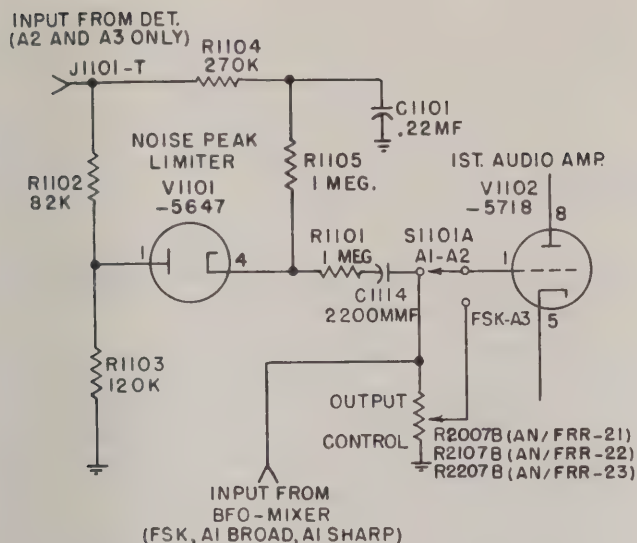

Figure 2-4. Noise Peak Limiter, Simplified Schematic
(1) AUDIO INPUT CIRCUITS.—Input to the audio assembly is determined by the setting of S1101A which is controlled by the RECEPTION control. A simplified schematic of the audio input circuits is shown in figure 2-4. When the RECEPTION control is set at FSK, A1 BROAD, A1 SHARP, output from the BFO-mixer, V1004, is applied directly to the first audio amplifier, V1102. But when the RECEPTION control is